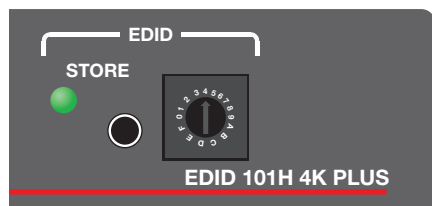

Figure 5. Store LED, Button and Rotary Switch (in Position E)
EDID Minder ensures that a connected source has access to the EDID of a display even if the display is not connected. Depending on the EDID mode selected, the EDID of a connected display or custom EDID can be stored in one of four user slots, or the user can manually select an EDID from the table of Extron factory EDID (see figure 5 on page 8).
Rotary switch positions 0 through B are Extron factory EDID. Select a switch position corresponding to the desired resolution (see figure 5).
1. Turn the rotary switch (see figure 5) to the desired user slot location (C through F).
5. Press **STORE** once to store the display EDID to the memory slot selected in step 1. The LED blinks. When the LED returns to solid, the EDID is stored (see figure 5).